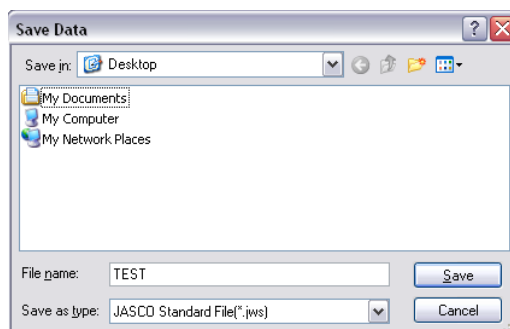

Figure 6.8 [Save Data] dialog box
- (2) Select a location to save the spectrum by clicking the arrow on the extreme right in the [Save in] box (in Figure. 6.8 “Desktop” is selected).
- (3) Input a filename in the [Filename] text box. The extension (the letters appearing after “.”) need not be entered. The output file is saved as a .jws format file.
- (4) Clicking the <OK> button saves the spectrum onto disk (the filename in the example is “TEST”).
**Note (1):** When the measurement is interrupted by clicking < Yes> button, the acquired data can be saved as a .jws file. When the <No > button is clicked, the acquired data cannot be saved.
**Note (2):** Refer to Section 3.1.1.5 for how to use the auto saving data function.